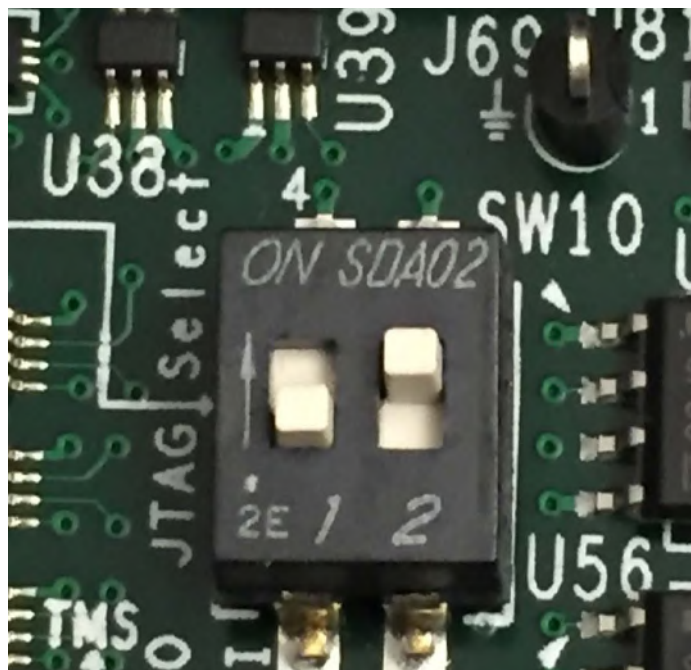

Figure 5-7: SW10 on a ZC702 Set to use Digilent USB JTAG
2. Connect a USB Micro cable between the Windows host machine and the target board with the following SW10 switch settings, as shown in Figure 5-7.